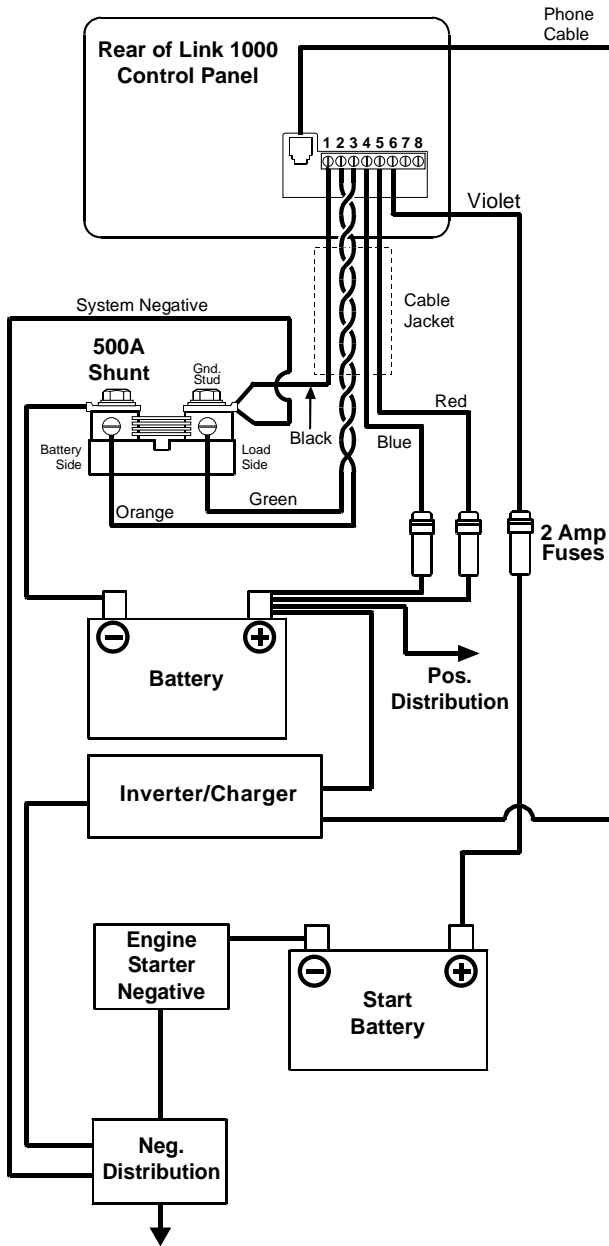

Figure 2 System Overview (Wiring)
Refer to Figure 2 on page 12.
- Do not connect anything other than the shunt to the negative battery terminal. Connect all other loads and sources to the load side of the shunt. (See Figure 2.)
To avoid confusion during installation, Xantrex recommends that you buy wires that have the same color coding as shown in Figure 2.
Complete the installation in this order. Refer to Figure 2.